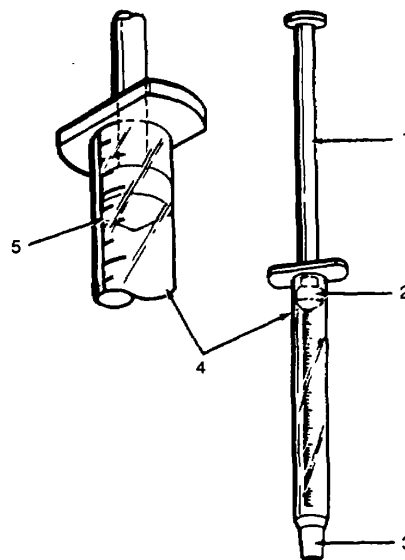

Figure 2-14. Mini Burette.
- (a) Remove the cap from the titration reagent sodium thiosulfate solution(4). Insert the open end(3, fig. 2-14) of the mini burette below the liquid. The plunger(1) of the mini burette should be pushed all the way in so the plunger tip(2) is resting on the bottom of the burette barrel(4).
- (d) Carefully set aside the mini burette(6) filled with sodium thiosulfate. Use the plastic dropping pipet(8) to add 8 drops of starch solution(7). Swirl to mix. The test sample will turn blue.
- (e) Using the mini burette(6), continue adding drops of sodium thiosulfate titrant(4) to the test sample in the flask(3). Add the titrant until the blue color just disappears. If no color change is noted by the time the plunger tip(2, fig. 2-14) reaches the 20 mark on the burette, refill the burette(6, fig. 2-10) from the titration reagent(4) bottle. Wipe off the end of burette(3, fig. 2-14), and continue adding titration reagent (4, fig. 2-10) until the color change is observed.
- (f) Record the scale reading on the mini burette at the lowest point on the plunger tip(5, fig. 2-14). Record the number of times if any that it was necessary to refill the mini burette.